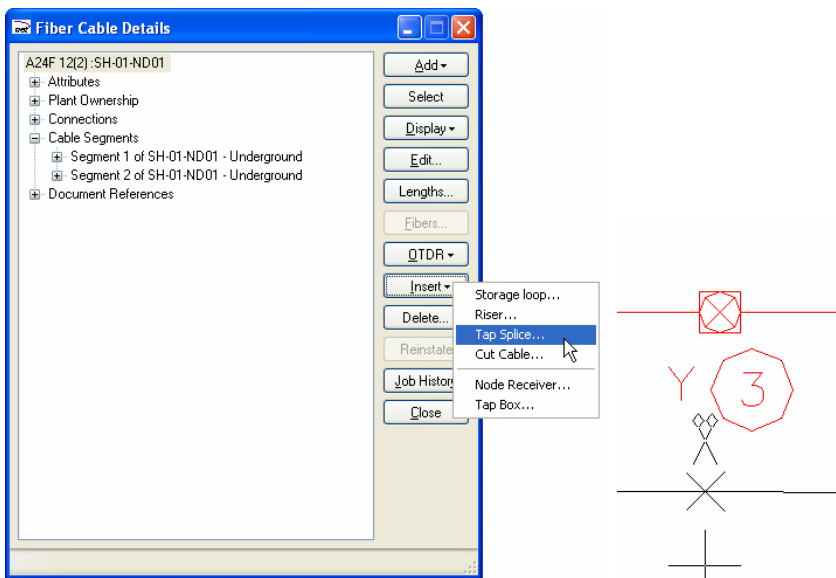
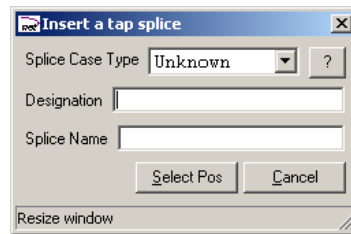

Figure 113 – Tap Cable and Scissor tool for inserting a splice case into an existing fiber cable.
Figure 114 – Capture Tap Splice details panel
3. When you select the Tap Splice... option from the pop-up menu shown in Figure 113 above, the **insert a tap splice dialog** is displayed (see Figure 114, below). This allows you to choose the type of splice you wish to insert, and to specify a name for both the splice housing (in the **Designation** field), and the splice itself (in the **Splice Name** field).